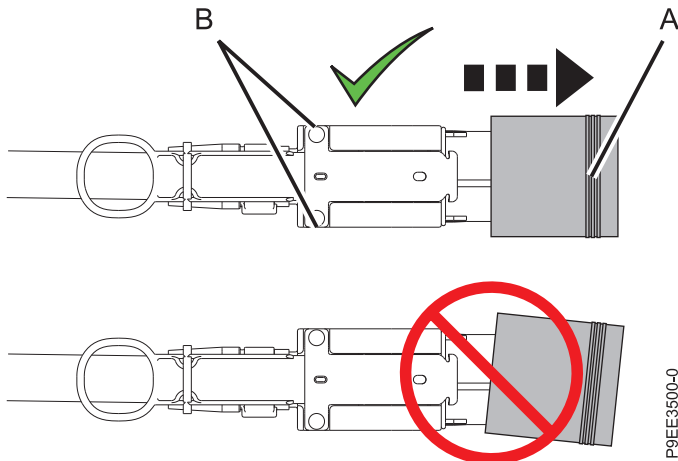

Figure 18. Removing the protective cover from the connector on the expansion drawer cable
- 2) Remove the protective cover from the connector on the expansion drawer cable. Hold the cable housing (**B**) on the short edges with the index finger and thumb on one hand. Then, grasping the cover on the long edge (**A**) with the index finger and thumb on your other hand, pull off the protective cover. See Figure 18 on page 22.
- 2) Remove the protective cover from the connector on the expansion drawer cable. Hold the cable housing (B) on the short edges with the index finger and thumb on one hand. Then, grasping the cover on the long edge (A) with the index finger and thumb on your other hand, pull off the protective cover. See Figure 18.